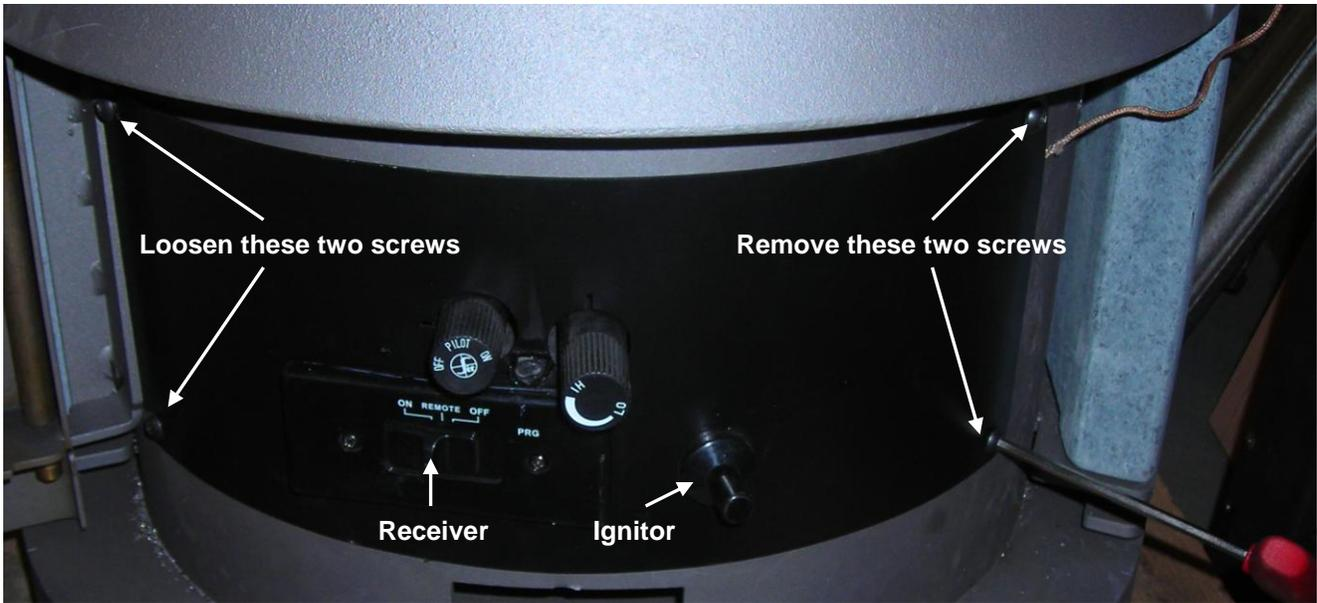

Figure 1 – Modesty Panel Detail
2. The receiver mounts on the modesty panel. Use a 4mm hex wrench to remove the two rightmost screws that mount the black modesty panel to the stove (See Figure 1). Retain these screws to re-install the panel. Next, slightly loosen the two leftmost mounting screws – and slide the panel free.